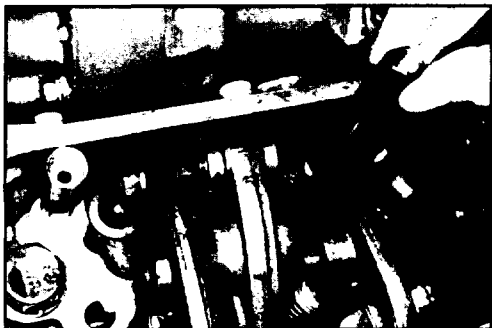

Fig. 13
2. Install the new connectors (3) with washers (5) into the cylinder head (2 per cylinder). See Fig. 13. Torque the connectors to 40-45 lbft. (54-61 N•m).